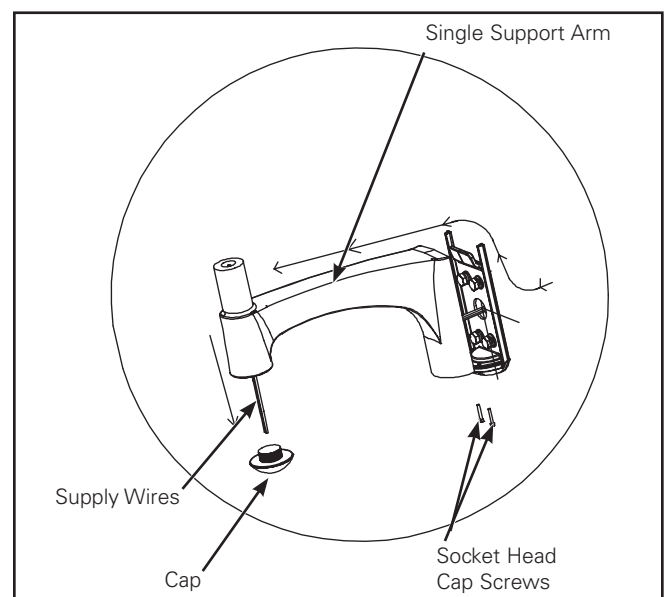

Figure 20.
4. Loosen and take off the cap from single support arm's bottom hole. (Figure 20.)
6. Pull extended supply wires through the arm into the hole where cap was placed (Figure 20.) and hook the arm over installed wall plate.
7. Secure the arm by tightening the two screws on bottom to approximately 17 ft. lbs. towards the wall plate. (Figure 20.)